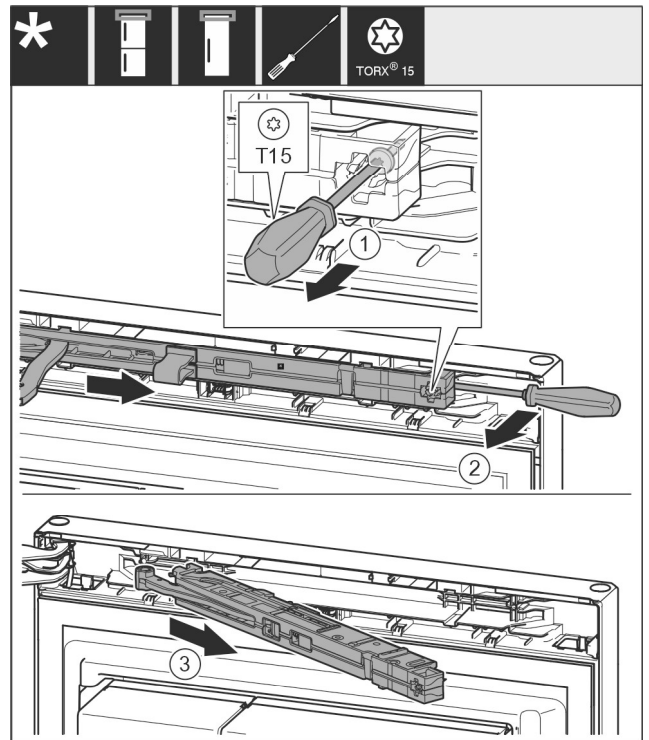

Fig. 12
- ▶ Loosen the screw Fig. 12 (1) on the closing damper unit with a 14 mm (9/16 in) screwdriver.
- ▶ Use the screwdriver to lift out the closing damper unit Fig. 12 (2) on the handle side.
- ▶ Pull out the closing damper unit *Fig. 12 (3)*.